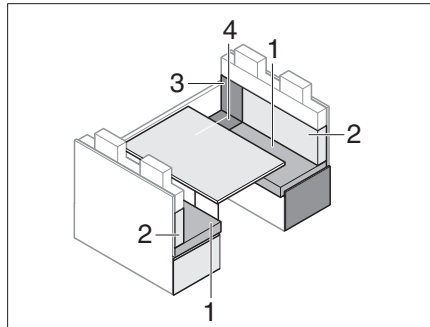

Fig. 208 Prior to conversion
- Remove the back cushion (Fig. 208,2) and lay it to the side.